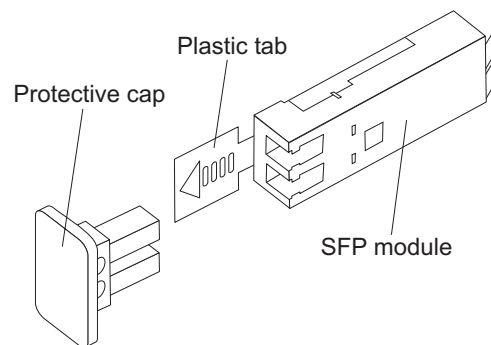

Figure 25. Installing an SFP module into the host port
4. Insert the SFP module into the host port until it clicks into place. See Figure 25.